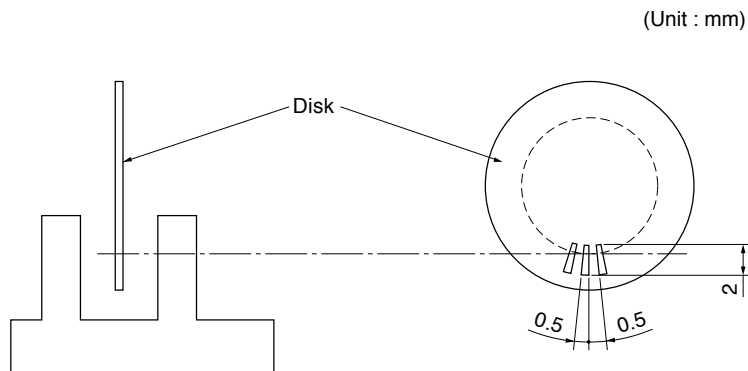

Fig.1 Low Level Output Current vs. Ambient Temperature
*1 Collector current of output transistor, refer to Fig.1.